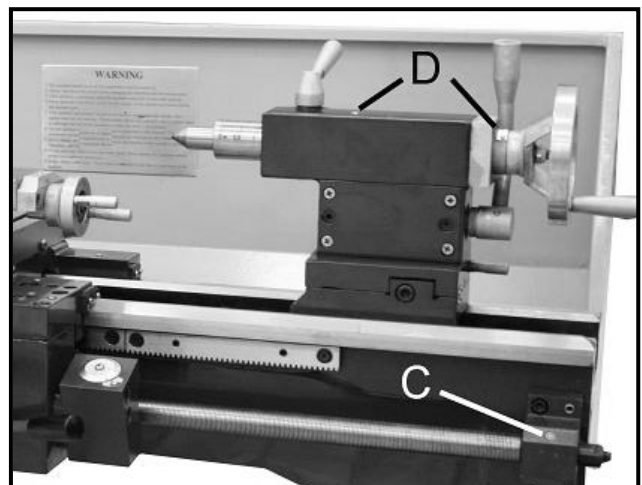

Figure-44 Oil ports locations
Lubricate the oil port (C) shown in figure-44 with 20W machine oil once daily.
Lubricate the two oil ports (D) shown in figure-44 once daily.